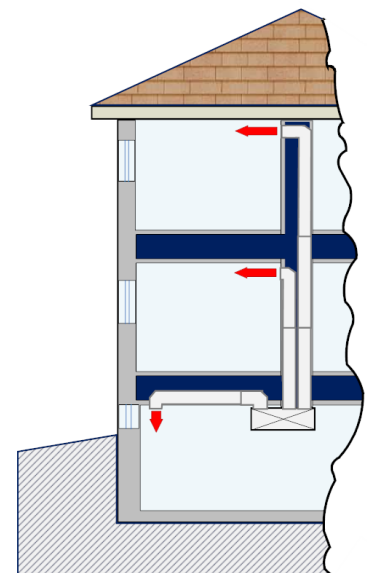

Figure 6: Central supply design
The **central supply** option deviates from traditional design practice as illustrated in Figure 6. It can include:
- Supply outlets are located high on interior walls blowing air horizontally across the top of rooms as shown in Figure 6.